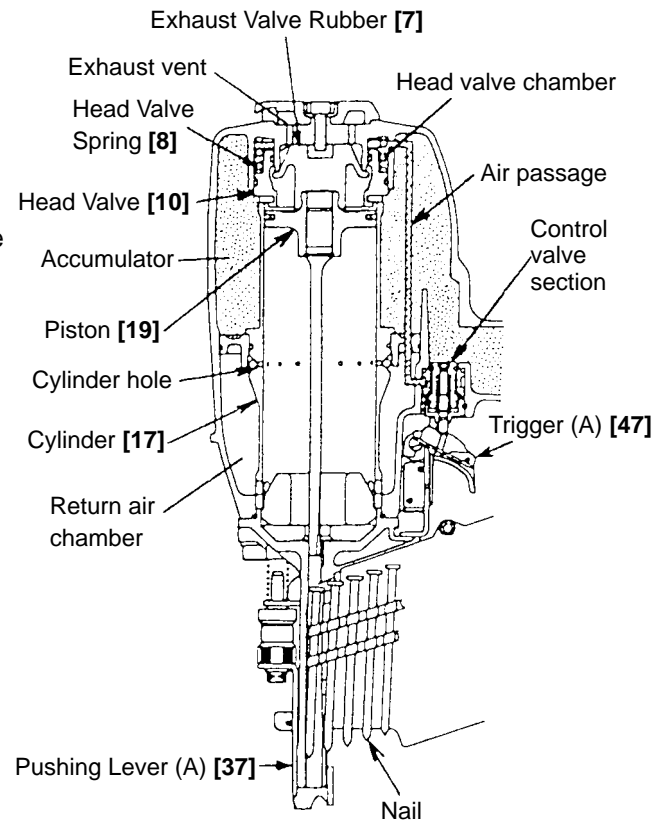
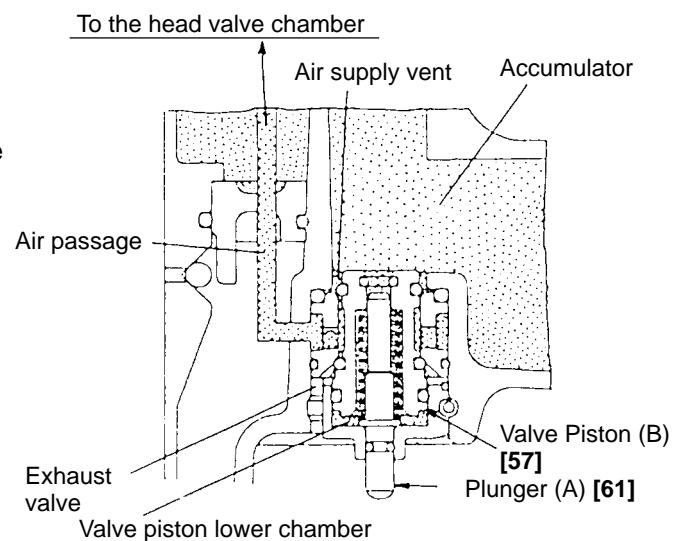

Fig. 5
Fig. 6 Control valve section
(1) Before nailing (See Fig. 5 and Fig. 6.)
(2) When nailing (See Fig. 4 and Fig. 5.)
- 3) When Trigger (A) [47] is released, Plunger (A) [61] returns (lowers) completely as shown in Fig. 6. Compressed air then flows into the valve piston lower chamber, and Valve Piston (B) [57] is forced upward. The Piston [19] then returns fully upward. Therefore, unless Trigger (A) [47] is released after each nailing operation, the structural mechanism prevents the next nailing operation.